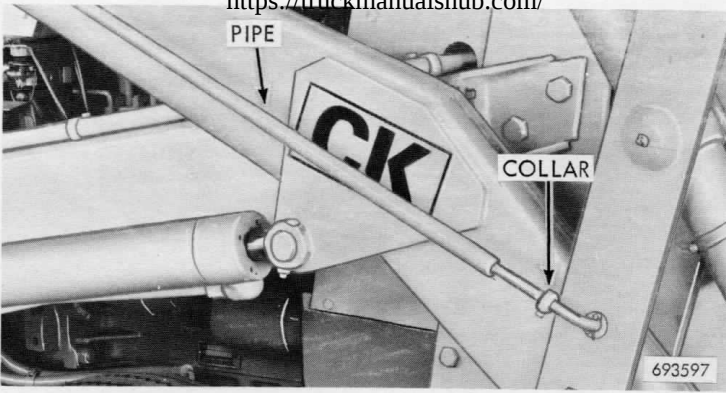

Figure 70 - Return-To-Dig Adjustment
2. Position the control lever in the return-to-dig position (left and forward). Loosen the set screw in the collar, Figure 70, and slide the pipe and collar slowly to the rear until the control lever is released. Then tighten the collar set screw.